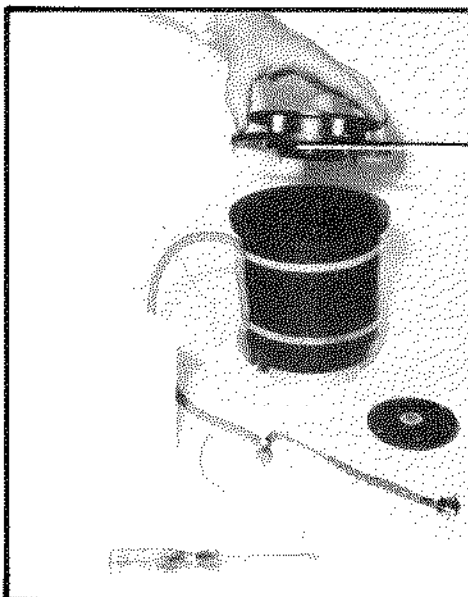

Fig. 3-14:
- Place the outer sphere cover on the outer sphere (cf. Fig. 3-14) whilst observing the positioning pins!